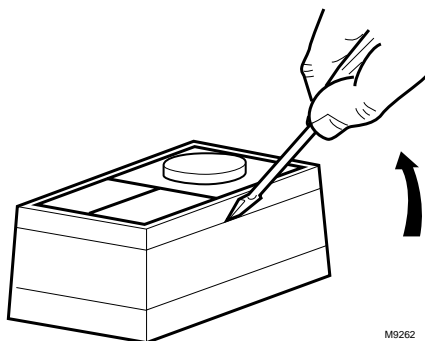

Fig. 1. Removing humidity controller assembly from case.
- 4 Remove the cover and humidity controller assembly from the case by inserting a screwdriver into the notch on the bottom of the case and prying loose (Fig. 1).